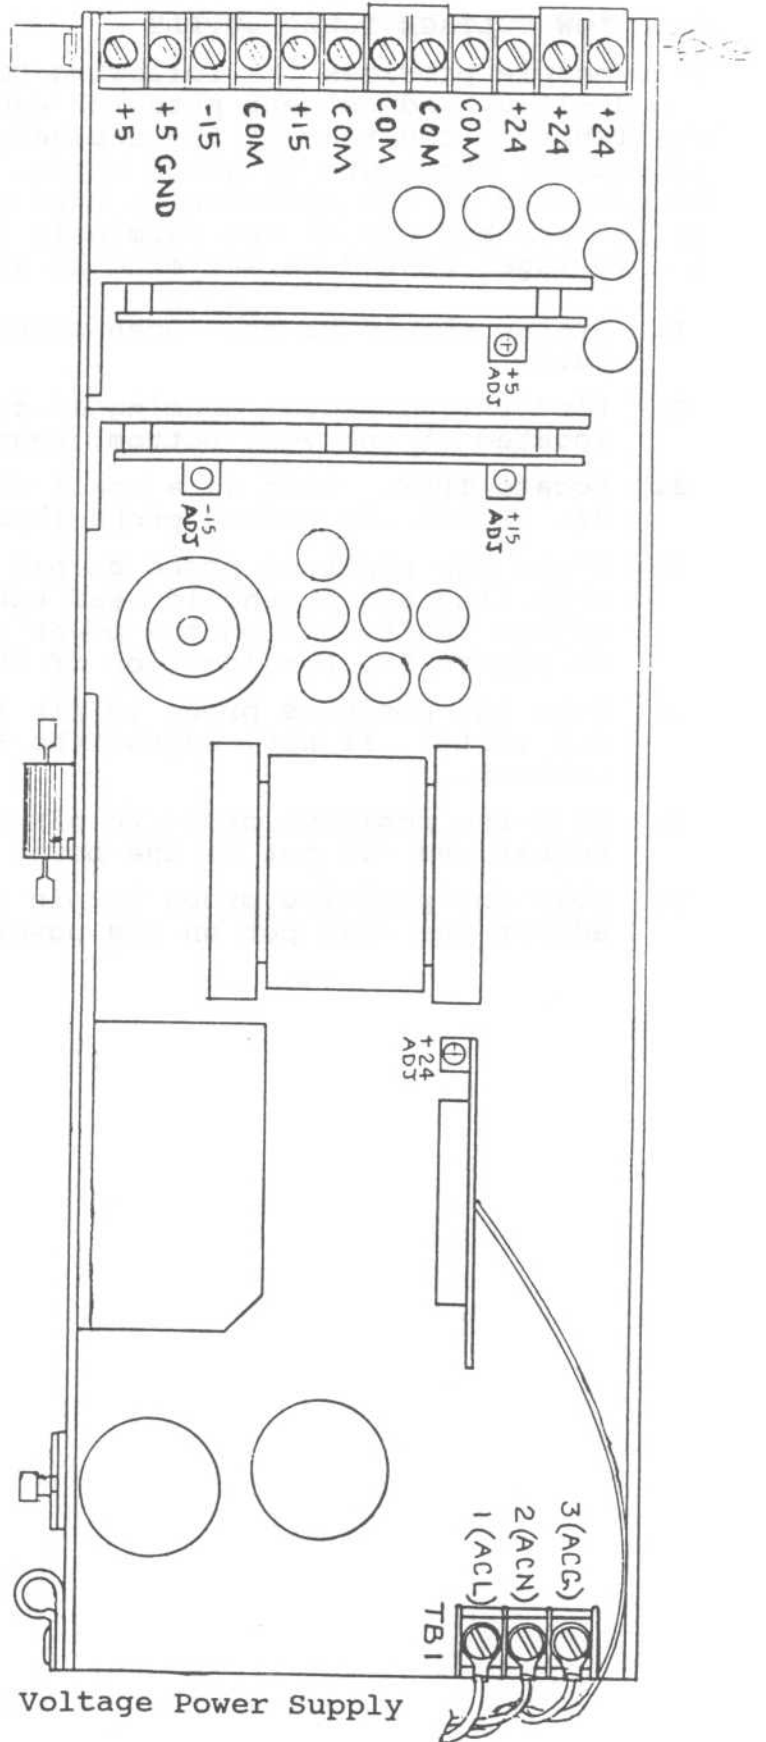

Figure 8-4. Cabinet on Low Voltage Power Supply
This module provides the following DC voltages: +5 v, +15 v, +24 v and -15 v. Adjustment pots for each of these voltages are available on the rear of the cabinet, (see Figure 8-4). The adjustment procedure is given below. Note that the voltages must be measured at the Electronics Card with a Fluke (or equivalent) voltmeter, and not at the terminals on the power supply cabinet. The voltages should be set exactly at their specified values.
4. Place the positive probe on pin #2 of J2. This is the +5 volt line and it should read exactly 5.00 Volts. If not, adjust the 5v pot on the power supply cabinet, (see drawing in Figure 8-4 for location of this pot).